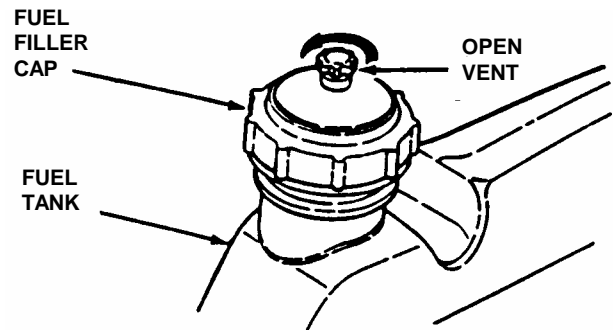

FIGURE 2.3
2.1.6. Add fuel to tank of the YARD CRUISER outside where fumes can safely dissipate. Make sure fuel filler cap is tight and vent is open after refueling. See Figure 2.3. Refer to engine owner's manual for fuel specifications.
1. Make sure fuel cap is on tight. Turn fuel shut off valve (If equipped) to the "CLOSED" position. Start engine and allow it to run until engine runs out of fuel. Close vent on fuel filler cap. See Figure 2.3, Page 6.